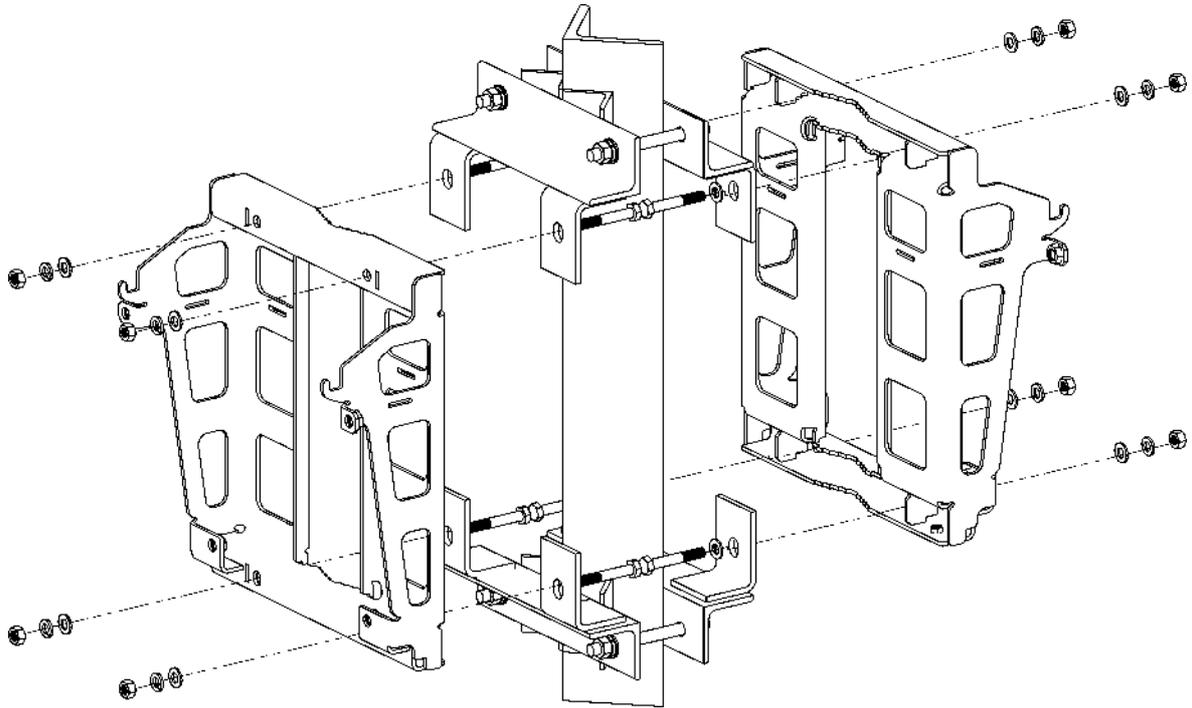

Figure 2-16: Mounting the Carriages on the L-shape Mast
- 3 Thread the four M10x265 threaded rods through one carriage and bracket, and tighten using the supplied washers, spring washers and nuts. Repeat for the second carriage (Figure 2-16).